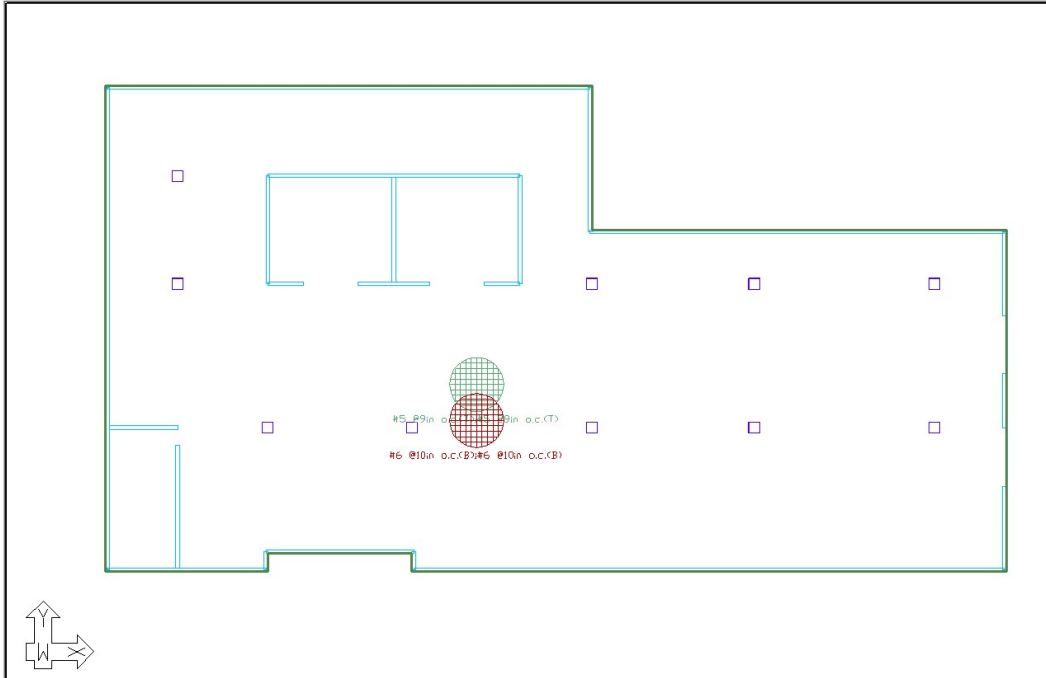

Figure 4.2-14 - Rebar in Excess of Base Rebar
- After introducing new base reinforcing, the slab needs the design sections to be redesigned and the reinforcement layout must be generated again. The program will produce a new rebar drawing and display any additional rebar to the base reinforcing where required as shown in **Figure 4.2-14**. Note that with the added mesh reinforcement, no additional calculated reinforcement is required in the design.